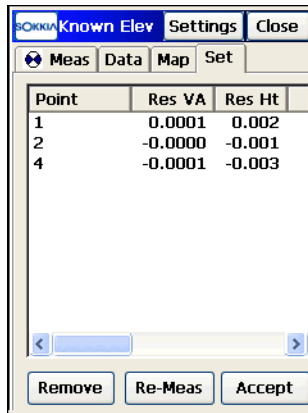

Figure 8-44. Calculate Vertical Coordinates for Unknown Points
6. Open the *Meas* tab. In the *Known Elev* screen (Figure 8-44), tap the **Accept** button. The vertical coordinate of unknown points will be calculated.